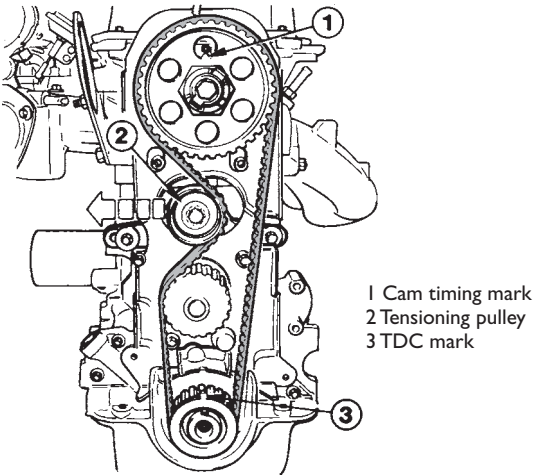

Figure 5.14 Camshaft drive belt
- Camshaft drive belt (Figure 5.14). Camshaft drive belts have become very popular. The main reasons for this are that they are quieter, do not need lubrication and are less complicated. They do break now and then, but this is usually due to lack of servicing. Cam belts should be renewed at set times, for example on a 48 000 mile service.